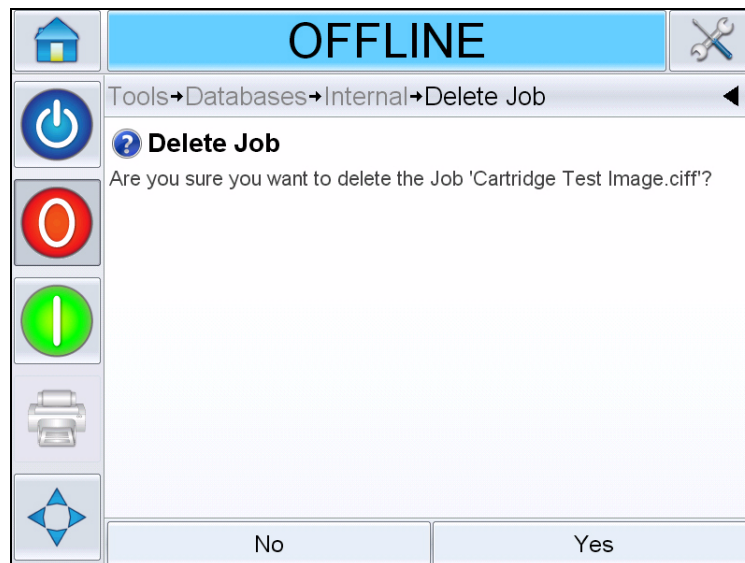

Figure 6-27: Confirmation Screen
- 6 Confirm the job to be removed (Figure 6-27).